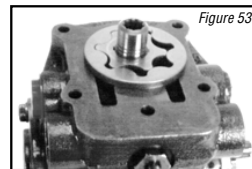

Figure 53
**25** Align the spline of the gerotor's inner ring, then lubricate and install the inner ring and outer ring over the input shaft and onto the backplate assembly (see Figure 53).